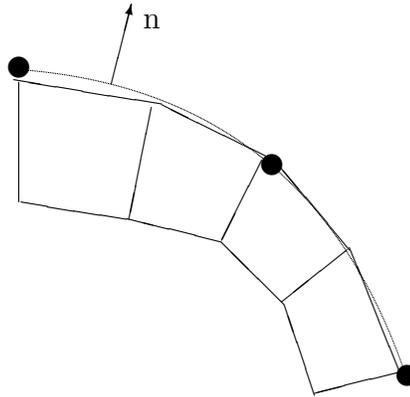

Figure 5.7: Two-Dimensional Surface Loading
*FEAPPV* will search for all nodes which are closer to the interpolation patch than **GAP** (default is  $10^{-3}$ ). Using the element boundary segments which have outward normals to the patch (by right hand coordinate rule as shown for a two-dimensional problem in Figure 5.7) will be located and the values interpolated to nodes. For tractions the equivalent nodal loads will be computed. In two dimensions it is not necessary for the interpolation patch to exactly match the element boundary segments.